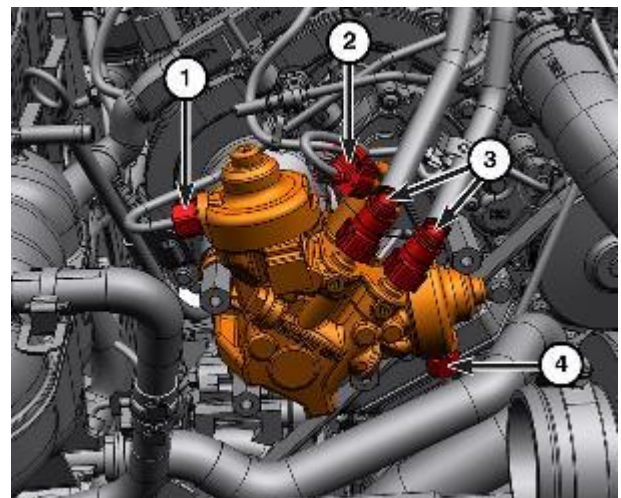
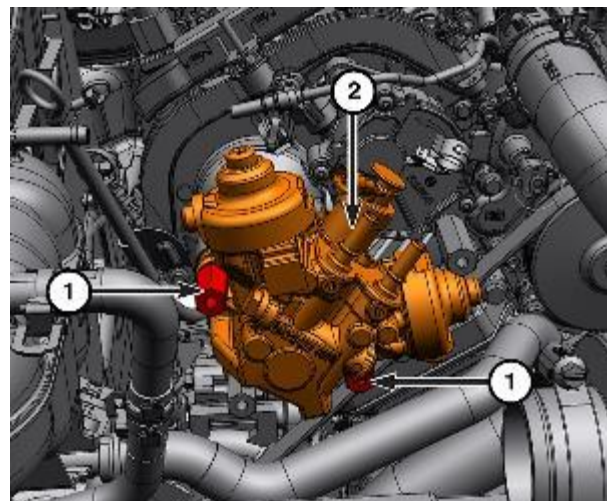

Figure 12 - HPFP Connections
Figure 13 - Upper HPFP Bolts
19. Disconnect the low-pressure fuel supply lines (3) (Figure 12).
20. Disconnect the fuel quantity solenoid wire harness connector (2) (Figure 12).
21. Remove the upper bolts (1) from the high-pressure pump (2) (Figure 13).
33. Remove the Tool, High Pressure Pump Installation VM.10345 from the upper bolts location and install the bolts (Figure 13).
34. Tighten the bolts (1) that secure the fuel injection pump to 25 N·m (18 ft. lbs.).
35. Connect the fuel injection pump electrical connector (2) (Figure 12).
36. Connect the low-pressure fuel supply and return lines (3) (Figure 12).